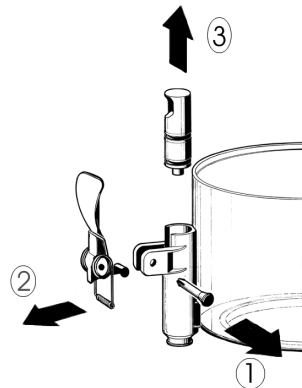

figure 1
- 3 Dismantle the faucet following the sequence shown (see fig. 1).
3 Reassemble the faucet assembly on the container in the opposite way to which it was dismantled (see fig. 1).